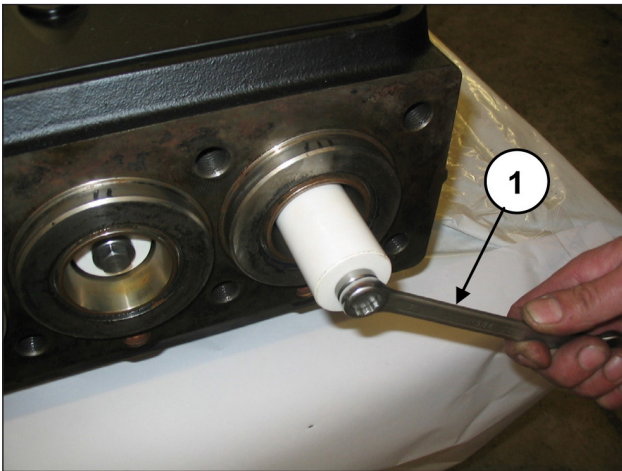

Fig. 111
Disassemble pistons unscrewing the fixing screws (pos. ①, Fig. 111).